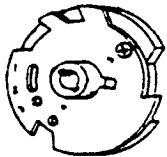
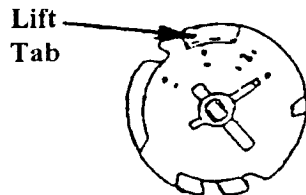

Figure 1
Figure 2
- A. There are five (5) adjustable positions on the narrow column cams. See figure 1 for Pre-Series 90 cam and figure 2 for Series 90 cam.